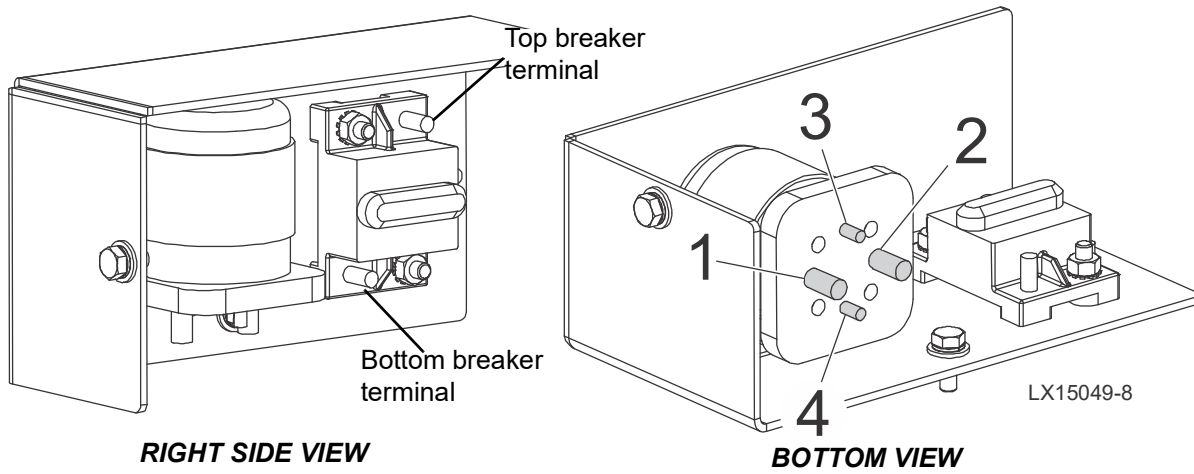

FIG. 1-9
1. Remove the solenoid/breaker box cover for easier access. See Fig.1-9.